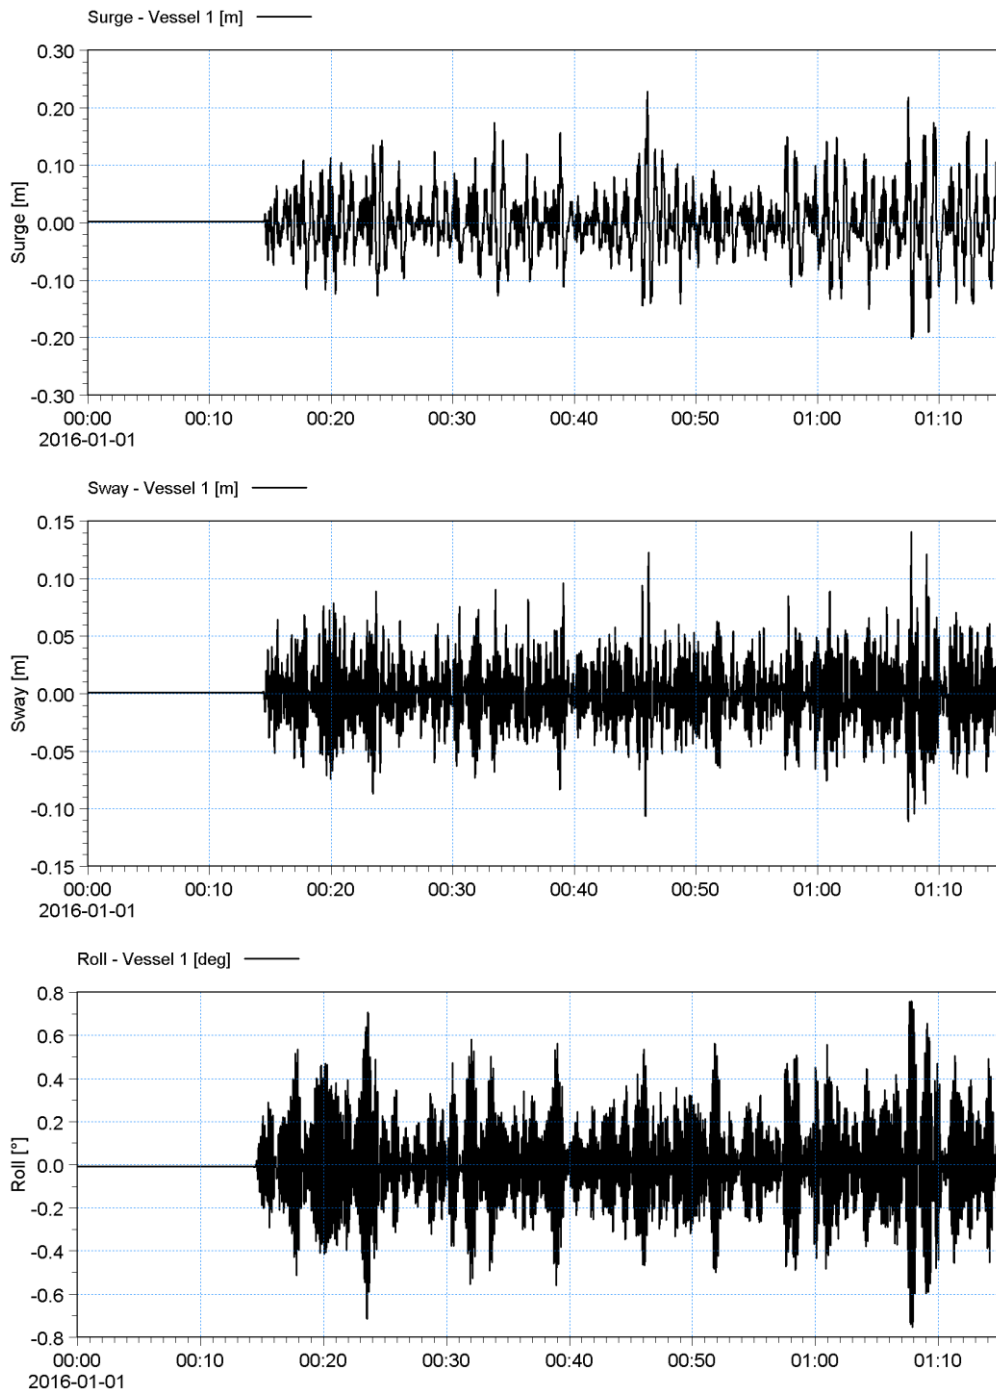

Figure 2-26 Time series of vessel motions
8. Select item 1 – 'Surge'
10. Repeat the steps 6-9 for the remaining 2 windows and plot items: sway and roll (from output file: DHI_Vessel_motions.dfs0). The final plots are shown in Figure 2-26.